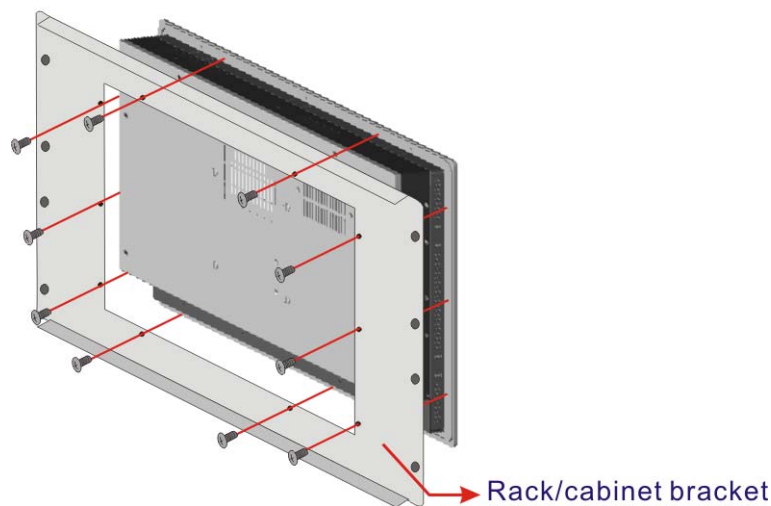

Figure 3-18: Secure the PPC-2710/PPC-2712 Rack/Cabinet Bracket
- Step 4:** Secure the rack/cabinet bracket to the PPC-2710/PPC-2712 flat panel PC by inserting the retention screws (**Figure 3-18**).